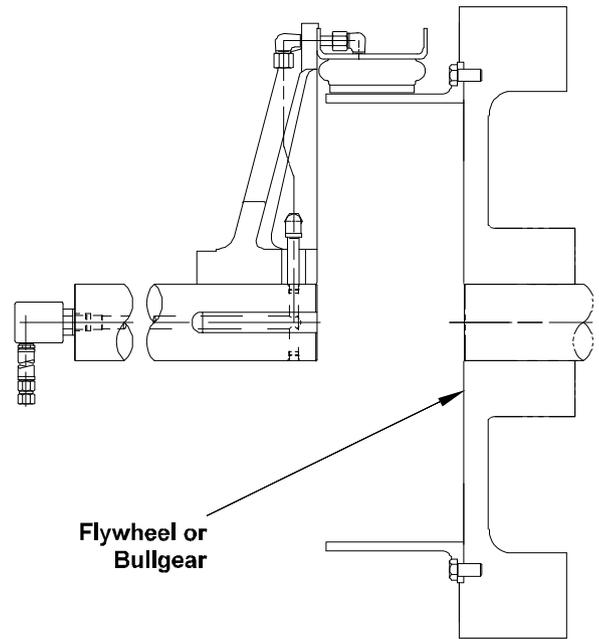

Figure 6
2.1.5 Figure 6 illustrates a typical engine-mounted application, where the clutch element is attached to a spider and the drum is attached to a shaft-mounted flywheel or bullgear. This type of application is typically used when drilling of the air passage in the driving shaft is neither possible nor practical.